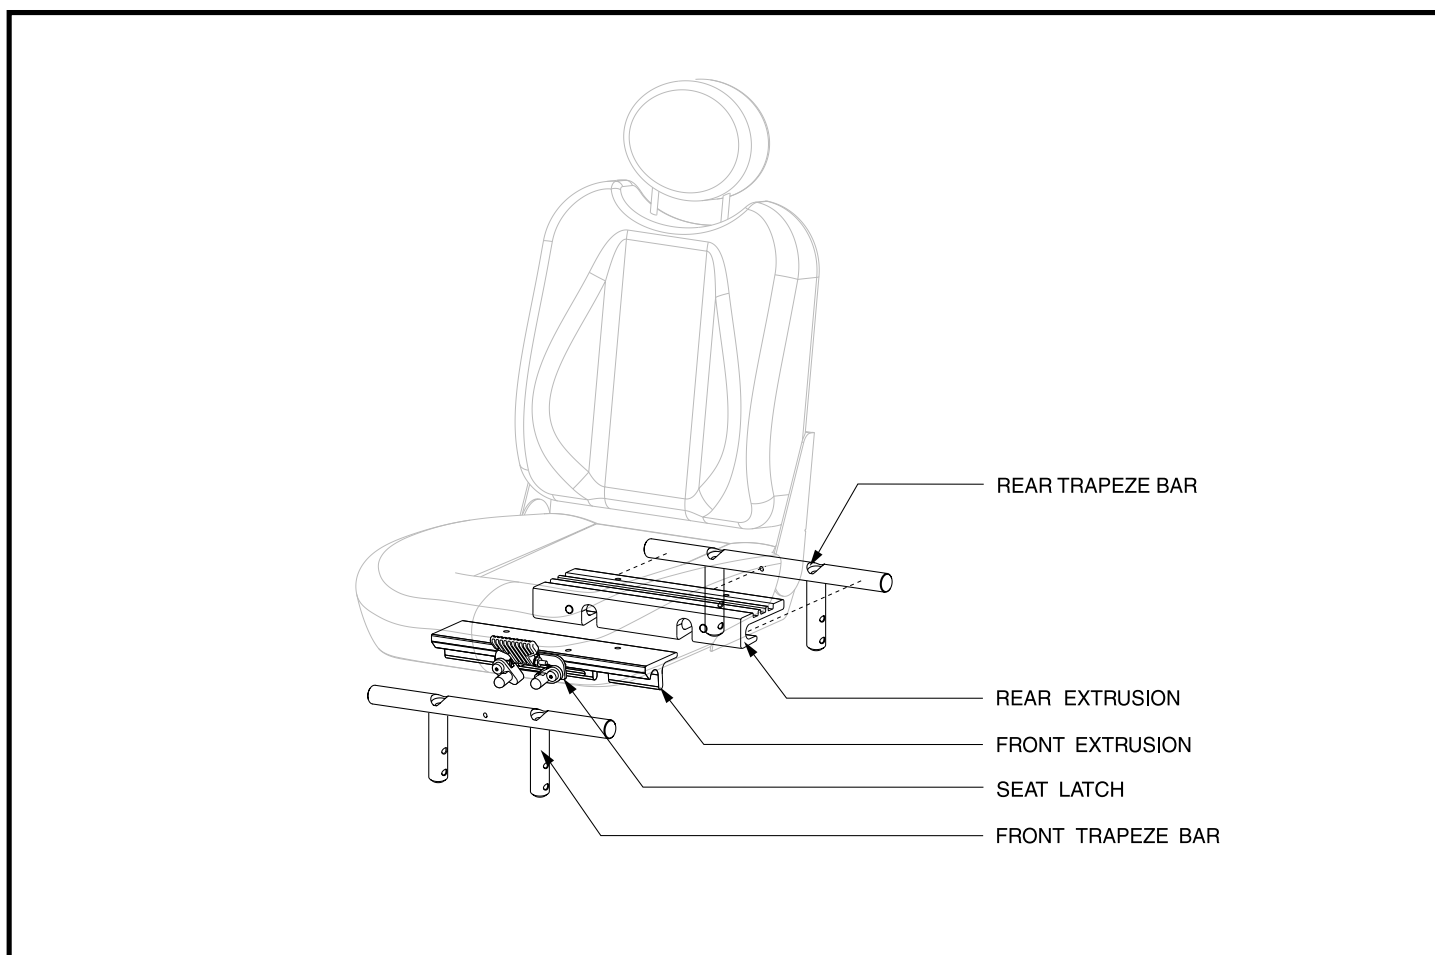

Figure 10. Universal Mounting System
2. Tilt the seat back and slide the rear extrusion onto the rear trapeze bar. See figure 10.
3. Remove the seat from the power base. See figure 10.